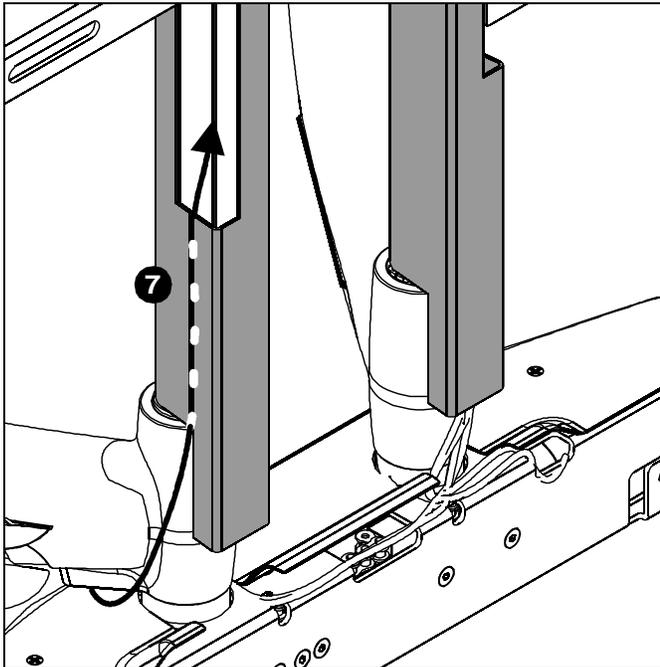

Figure 38
7. Continue to route cables through vertical cable management slots. (See Figure 38)